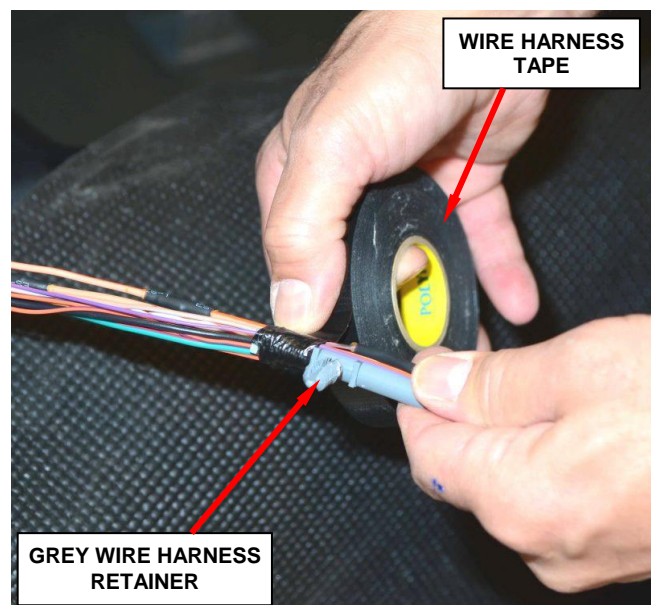

Figure 15 – Tape Wire Harness Retainer to Wire Harness
8. Tape the grey wire harness retainer to the wire harness in the location measured in Step 4 of this procedure (Figure 15).